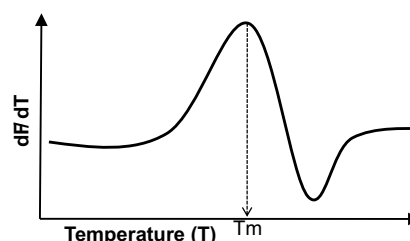

Figure 3. First derivative (slope) of the fluorescence curve ( $dF/dT$ ) vs temperature.
- 3.2 Generate the protein melt curve plot using first derivative (slope) of the fluorescence curve (Figure 3).
- If using DNA melt curve software to analyze protein melting, the  $T_m$  will be at the lowest  $-dF/dT$  value (at the lowest point on the curve). Some software may have the ability to change the sign, and plot  $dF/dT$  (instead of  $-dF/dT$ ); in this case the  $T_m$  is the temperature corresponding to the highest  $dF/dT$  value (peak of the curve, see Figure 3). If the software is not compatible with protein melt curve analysis, you may need to export the raw data and manipulate it using software such as Microsoft Excel®. Free online tools, such as DMAN (<http://www.structuralchemistry.org/pcsb/dman.php>) also are available for data analysis.